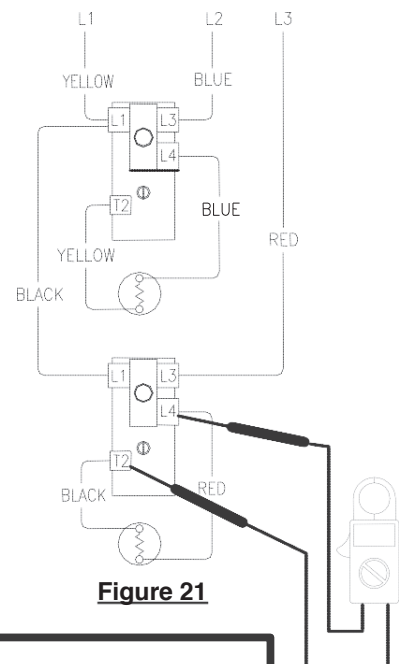

Figure 21
7. Check across terminals L4 and T2 of lower thermostat (see Figure 21).